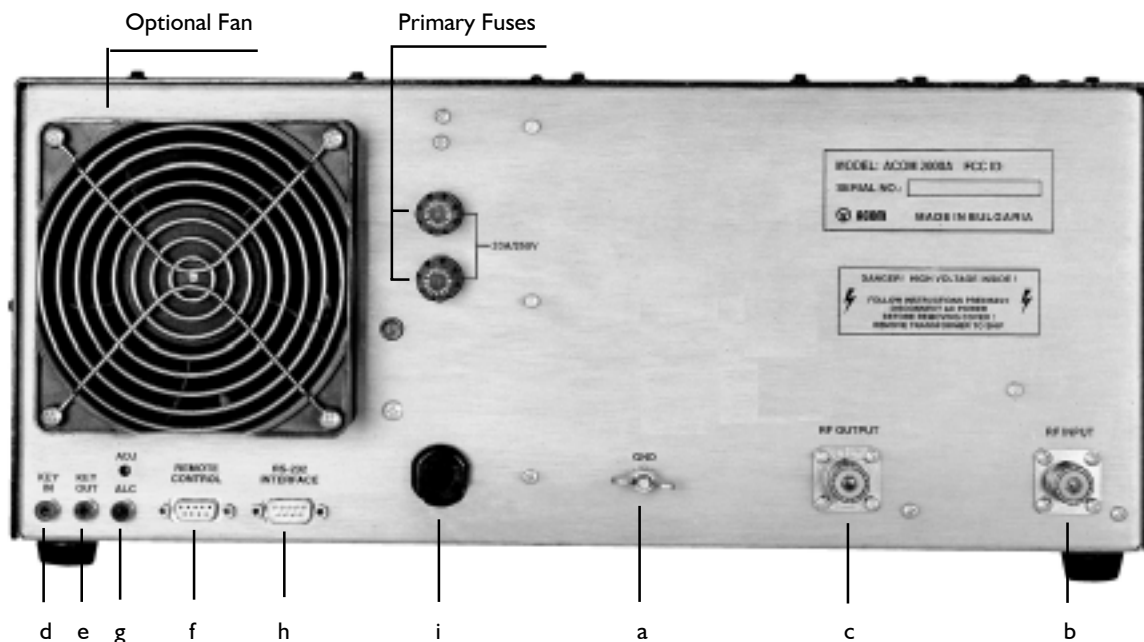

Fig.2-2 Connections
a) First connect the ground stud of the amplifier (on the rear panel, marked GND) to the station's grounding system (Fig.2-2).
This fan is not necessary in SSB and CW modes, nor in continuous carrier modes (RTTY, SSTV etc.) with carrier down times of maximum 15 minutes and a subsequent pause of 3 minutes. For higher duties the fan is recommended. The auxiliary fan (119x119mm) is supplied as an option with a set of 8 screws, nuts and washers. It may be mounted by the manufacturer on request (Fig. 2.2). Contact your dealer or see the TECHNICAL SUPPLEMENT for details.